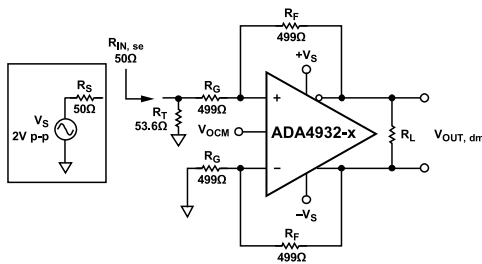

Figure 59. Adding Termination Resistor,  $R_T$
3. Figure 59 shows that the effective  $R_G$  in the upper feedback loop is now greater than the  $R_G$  in the lower loop due to the addition of the termination resistors. To compensate for the imbalance of the gain resistors, add a correction resistor ( $R_{TS}$ ) in series with  $R_G$  in the lower loop.  $R_{TS}$  is the Thevenin equivalent of the source resistance,  $R_S$ , and the termination resistance,  $R_T$ , and is equal to  $R_S || R_T$ .